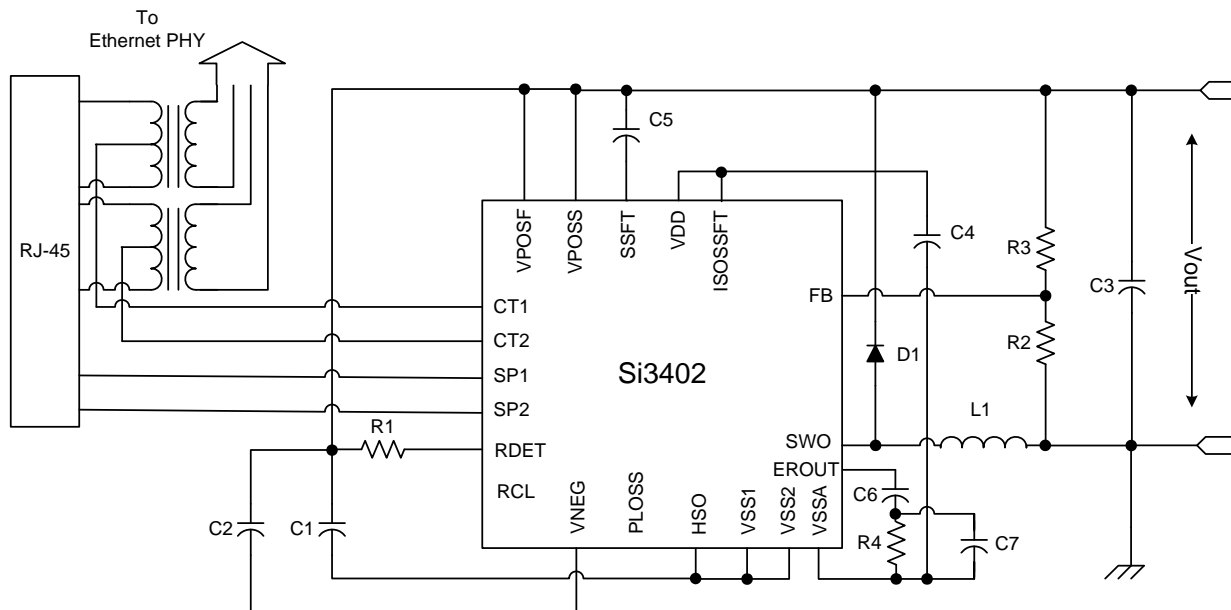
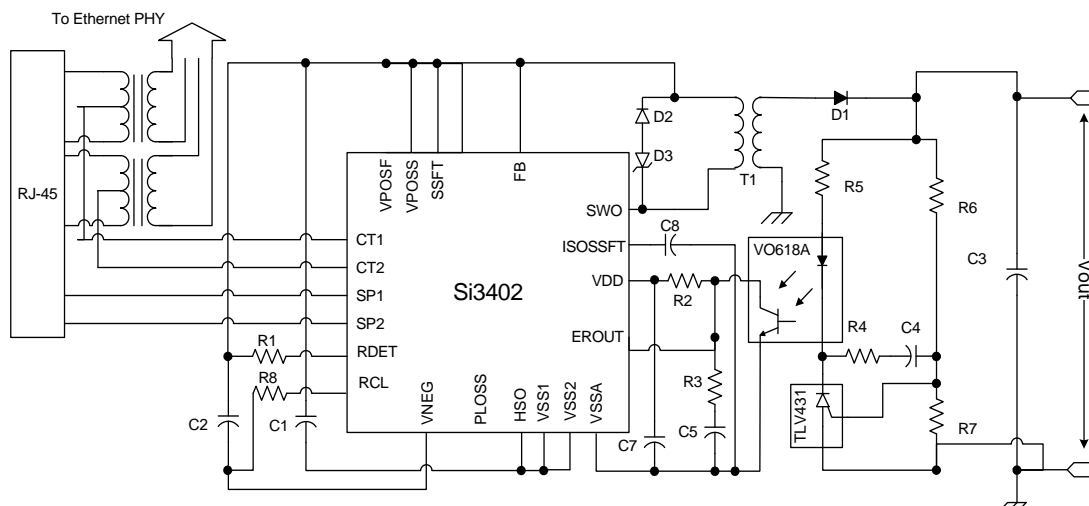

Figure 1. Schematic—Class 0 with Non-Isolated 5 V Output*
Figure 2. Schematic—Class 1 with Isolated 5.0 V Output*
6. Applies to non-isolated applications only (VOUT on schematic in Figure 1).
<ol style="list-style-type: none"> 1. Transient surge defined in IEC60060 as a 1000 V impulse of either polarity applied to CT1–CT2 or SP1–SP2. The shape of the impulse shall have a 300 ns full rise time and a 50 μs half fall time with 201 Ω source impedance. 2. The classification currents are guaranteed only when recommended RCLASS resistors are used, as specified in Table 10. 3. IPORT includes full operating current of switching regulator controller. 4. The PD interface includes dual-level input current limit. At turn-on, before the HSO load capacitor is charged, the current limit is set at the inrush level. After the capacitor has been charged within \sim1.25 V of VNEG, the operating current limit is engaged. This higher current limit remains active until the UVLO lower limit has been tripped or until the hotswap switch is sufficiently current-limited to cause a foldback of the HSO voltage. 5. See application note, “AN956: Using the Si3402-B PoE PD Controller in Isolated and Non-Isolated Designs” for more information. 6. Applies to non-isolated applications only (VOUT on schematic in Figure 1).
The application determines the converter topology. An isolated application will require a flyback transformer-based switching topology while a non-isolated application can use an inductor-based buck converter topology. In the isolated case, dc isolation is achieved through a transformer in the forward path and a voltage reference plus opto-isolator in the feedback path. The application circuit shown in Figure 2 is an example of such a topology. The non-isolated application in Figure 1 makes use of a single inductor as the energy conversion element, and the feedback signal is directly supplied into the internal error amplifier. As can be seen from the application circuits, the isolated topology has an increased number of components, thus increasing the bill of materials (BOM) and system footprint.